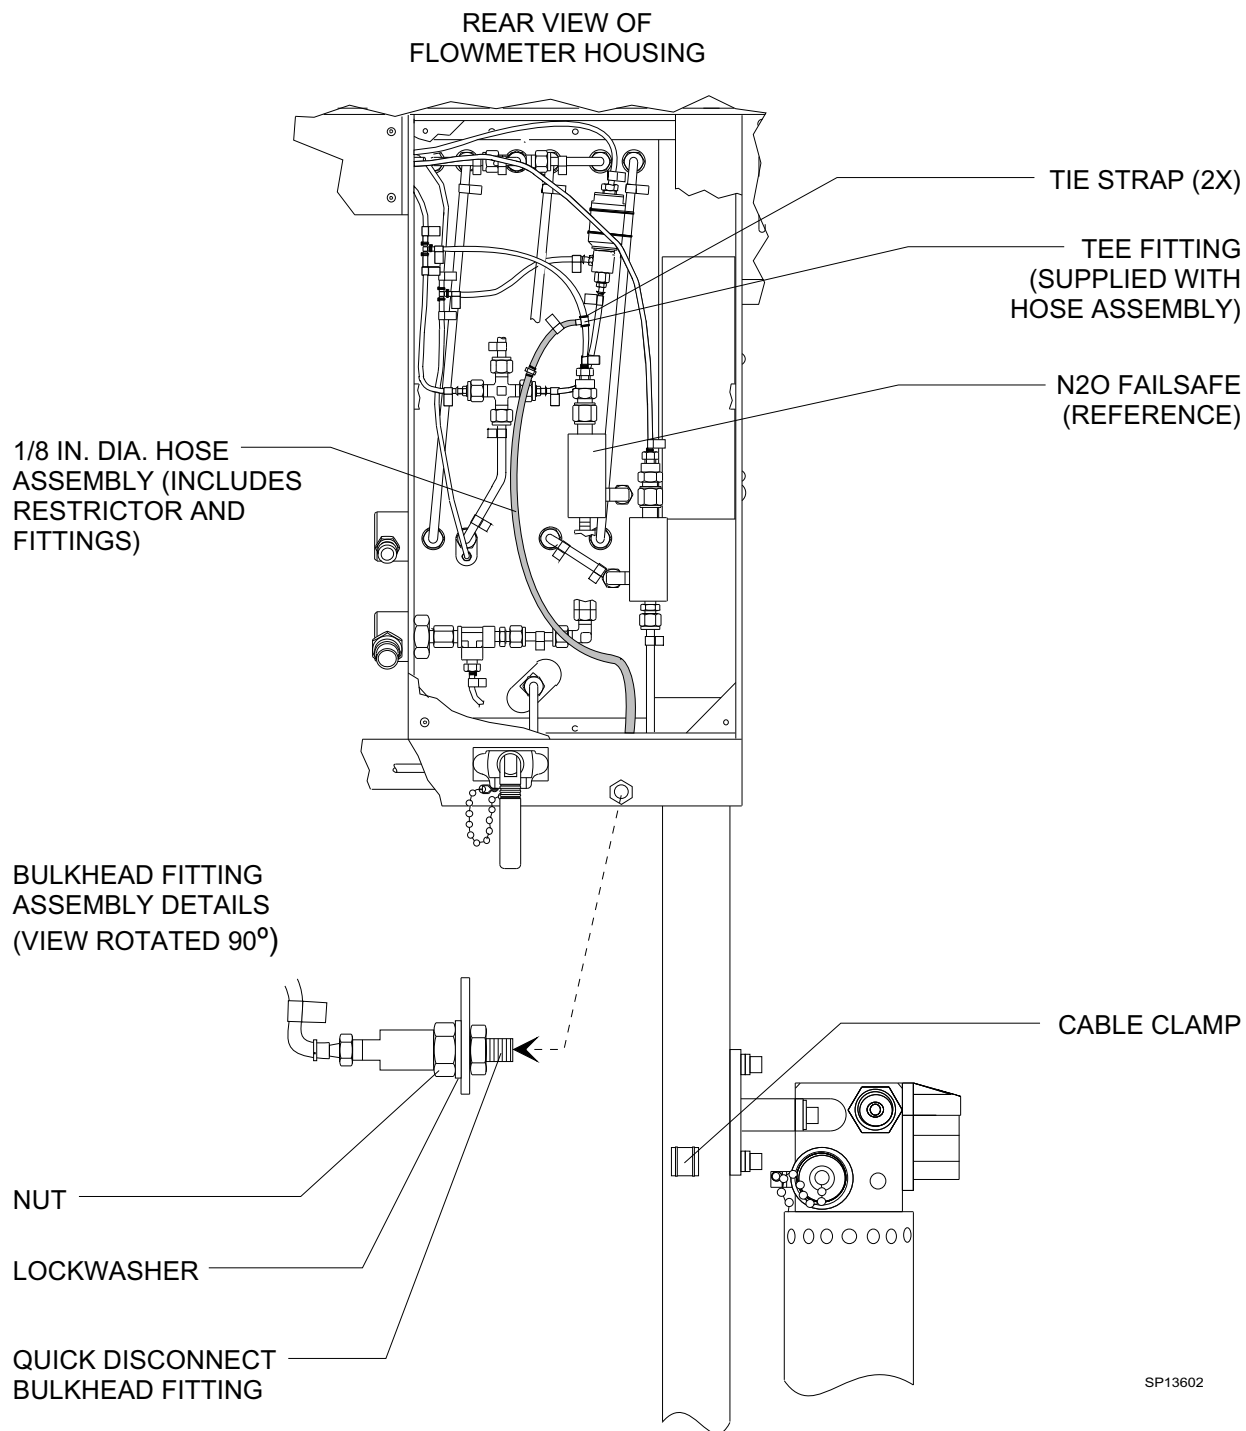

**Figure 1: DRILLING AND LABEL LOCATION**
4. For Narkomed 2B, 2C and 4: carefully enlarge the existing 7/32 in. dia. hole in the rear frame rail (see Figure 1) with a 5/16 in. dia. drill.
5. For Narkomed 2A and 3: measure and mark the hole location on the rear frame rail as shown in Fig. 1.
7. Install the label as shown in Figure 1. The arrow on the label should point to the hole.